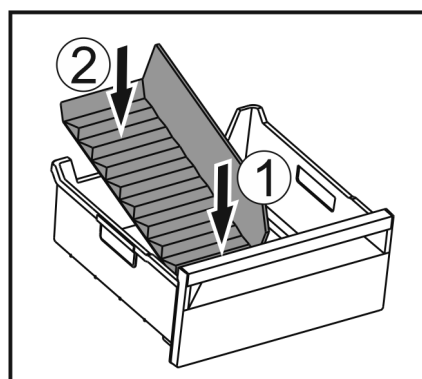

Fig. 250
- ▶ Insert the front part of the ice compartment divider. Fig. 250 (1)
- ▶ Lower the rear part of the ice compartment divider to the drawer bottom. Fig. 250 (2)